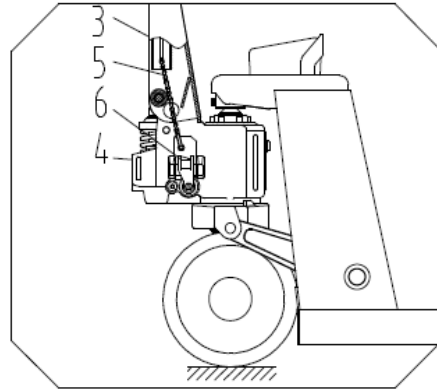

Fig2
3.4 See fig 2. Put the chain 5 of hand grip get across the middle hole of pin roll 2.
3.5 Take screw nut which is at the end of chain 5 and hitch the groove of lever board 6. See fig 2 and fig 4